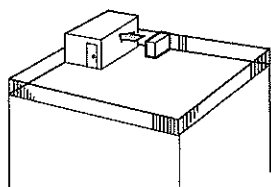

Fig. 3-2
- ① Face the air outlet towards the nearest available wall about 50 cm (19-11/16") away from the wall. (Fig. 3-2)